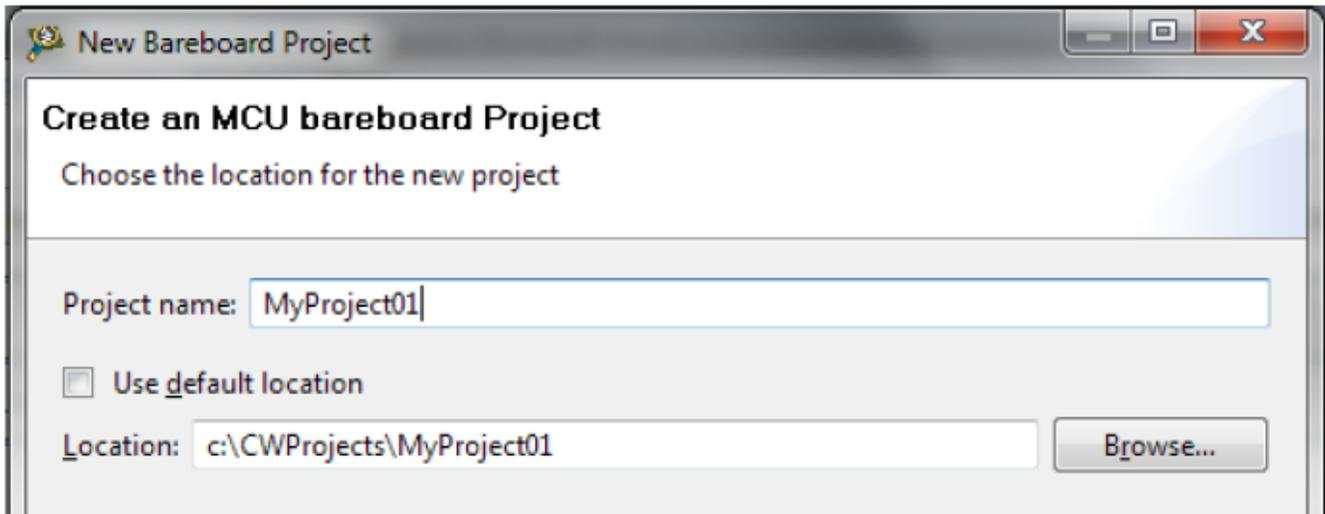

Figure 1. Project name and location
4. If the default location is not used, deselect the checkbox labeled "Use default location" and type the path where the project folder is to be created; for instance, c:\CWProjects\MyProject01, and click Next. See Figure 1.